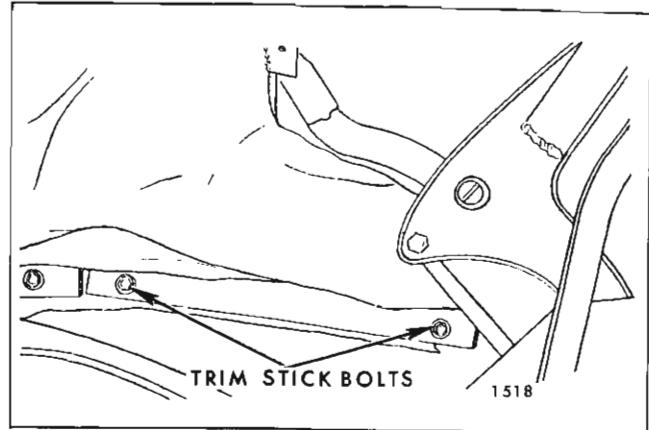

Fig. 1-I-41—Rear Quarter Trim Stick
6. To establish relationship of right and left inner vertical edge of old top material to back curtain assembly at rear trim stick location, mark back curtain material at both locations with a grease pencil (Fig. 1I42). Reference marks should be transferred to new back curtain when step 3 of installation procedure is performed.